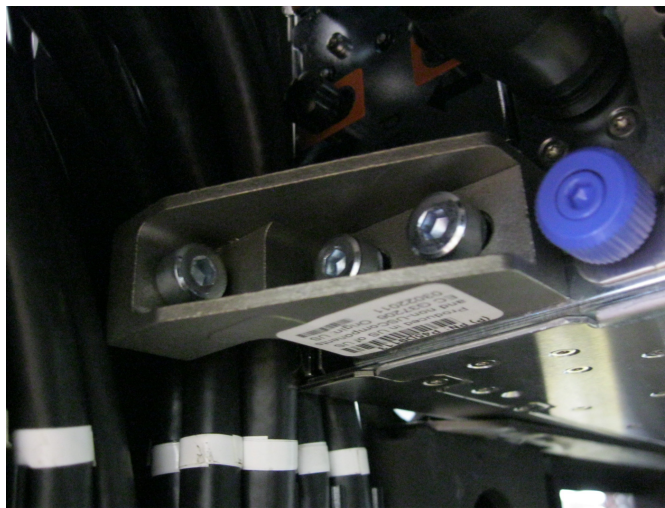

Figure 14 BPE Mounting Bracket Removal
STEP 17 Note that if removal of the long raceway is required for cables associated with drawer locations 5, 7, 9, and/or 11, the lower left BPE mounting bracket and standoff must be removed to allow the raceway to be slid forward. Using ratchet 6428140, extension 46K2707, and 5mm hex bit 74Y0986, loosen the captive screws and remove the BPE mounting bracket. Using 16mm socket 5497588, remove the mounting standoff from the rack. The long raceway and cables can now be slid forward. (see photo in Figure 14)